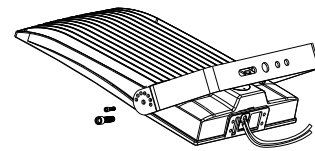

Figure 7
Step 1: First install two big screws. (Figure 7)